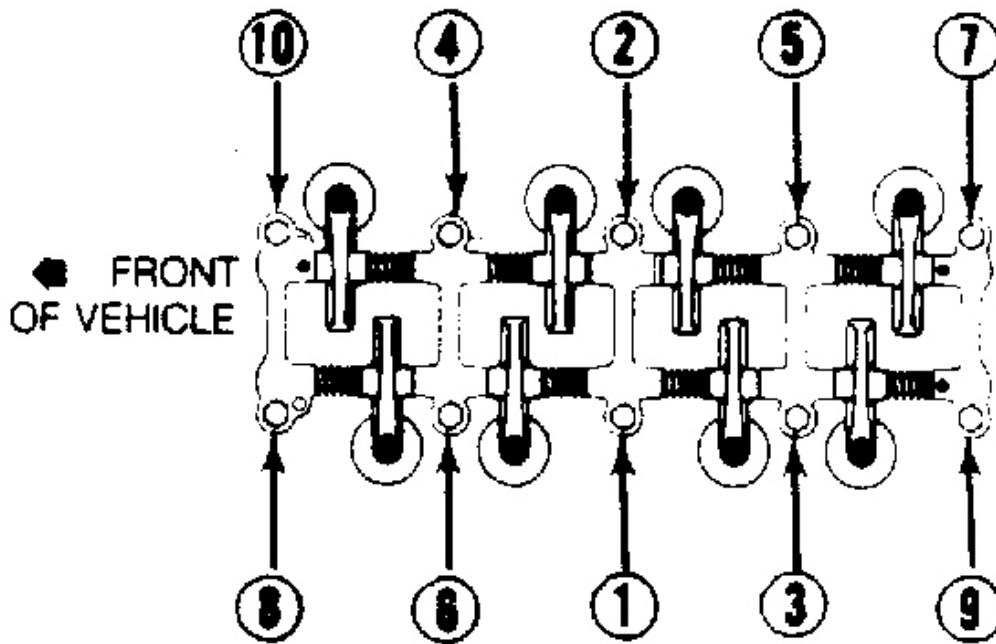

Fig. 1: Cylinder Head/Rocker Arm Bolt Tightening Sequence
6. Remove chain cover bolt in front of camshaft sprocket. Remove cylinder head bolts in reverse of tightening sequence. See **Fig. 1**. Remove rocker arm assembly.